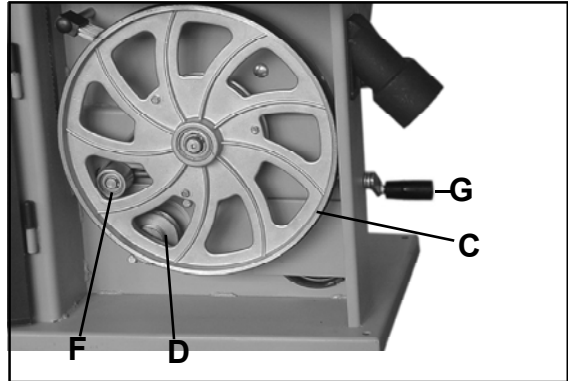

Fig. 24
The lower bandwheel (C) has two, integral, multi-vee pulleys and the motor shaft has a twin multi-vee pulley (D). (See Fig.24)
The multi-vee belt (E) passes around the bandwheel pulley, the motor pulley and the tension roller (F). The belt tension is released and applied by using the crank handle (G). This moves the tension roller and allows the speed to be changed. (See Fig.24)